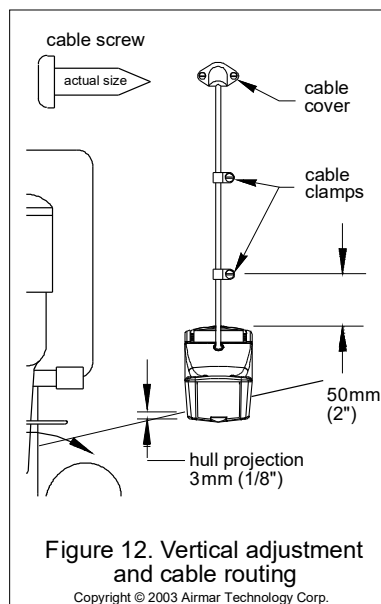

Figure 12. Vertical adjustment and cable routing
2. Check that the bottom left corner of the sensor projections 3 mm (1/8") below the bottom of the hull (Figure 12).
- b. Move the sensor deeper into the water in increments of 3mm (1/8") (Figure 12).
1. If a hole must be drilled through the transom, choose a location **well above the waterline** (Figure 12). Check for obstructions such as trim tabs, pumps, or wiring inside the hull. Mark the location with a pencil. Drill a hole using the appropriate size bit to accommodate the connector.